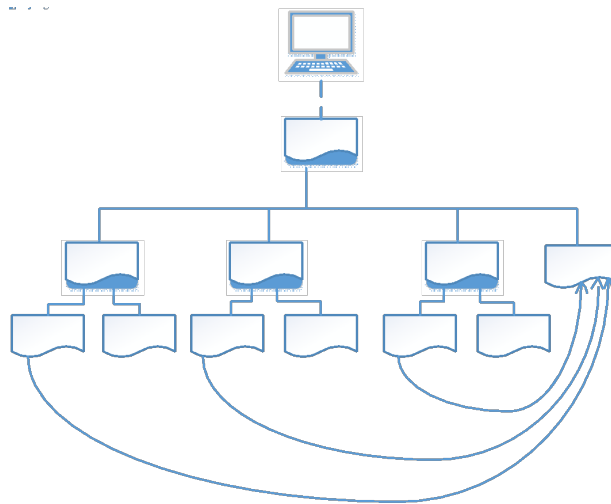

Figure 2: Directory structure for EE476 CAD assignments
1. First, create a new directory called `tut_2` under your `ee476` directory. (as in Figure 2.) Run `virtuoso`, and create a new design library, also called `tut_2`. In the new library, create a new schematic cell-view called `'nmos_inverter'`.